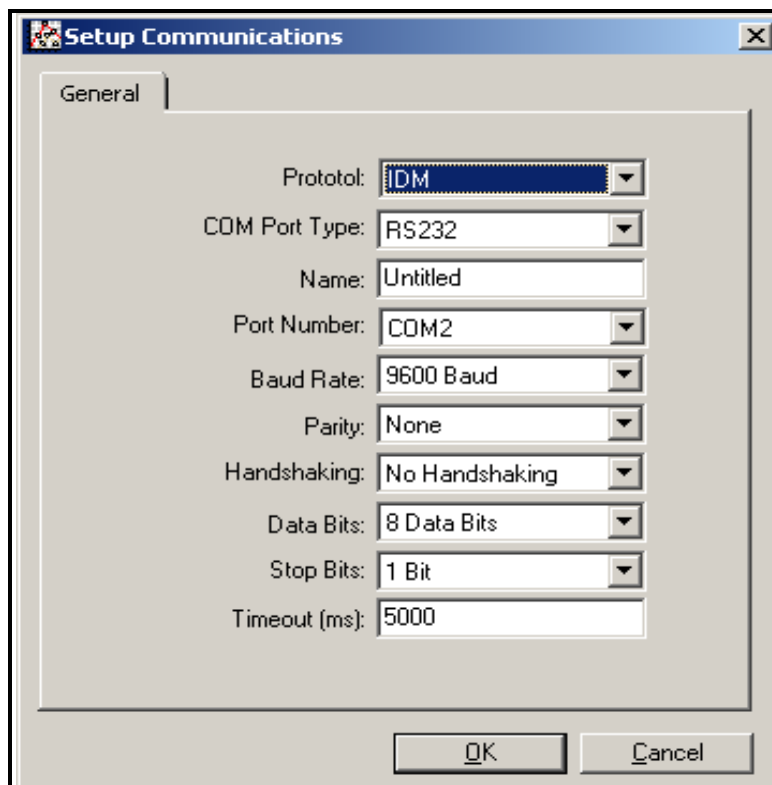

Figure C-2: Setup Communications Screen
4. Click on the “*Communications Port*” option to select it. The *Setup Communications* screen appears similar to Figure C-2 below.